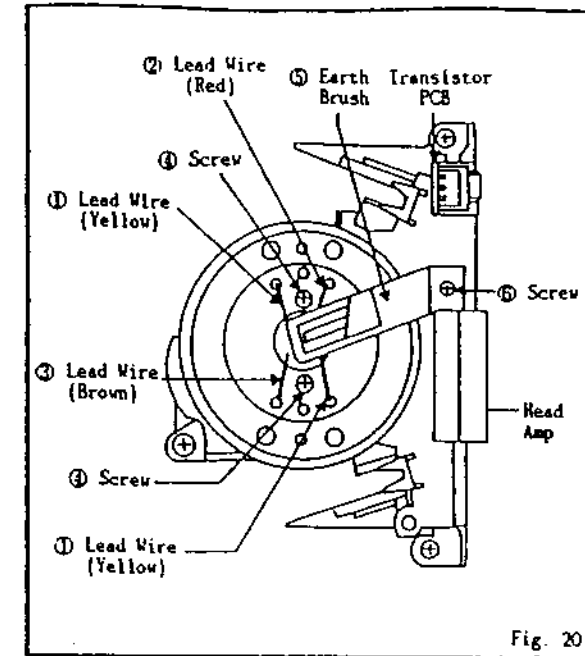

Fig. 20
1. Set up a new drum as per Fig. 20 and correctly place each lead wire.
2. Set upper drum by installing two screws (4).
3. Solder lead wires (1), (2) and (3) to their respective positions.
4. Install the EARTH BRUSH (5) with the screw (5).